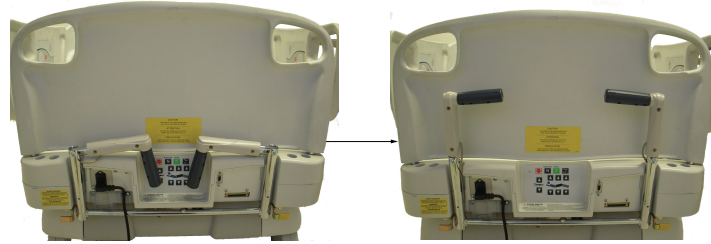

Figure 8 – Unfolding the Zoom motorized drive handles
3. Unfold the drive handles from the head end of the product (Figure 8). Make sure that the drive handles lock into the upright position.